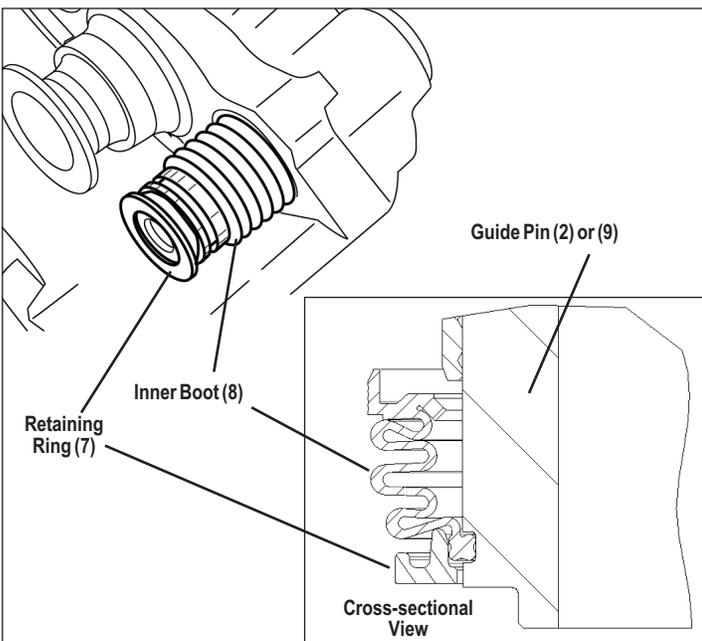

Figure 14 - Guide Pin Installation
Lubricate both guide pins with the white grease supplied. Insert the guide pins into their respective bores with the grooved end towards the bellows. Fit the lip in the end of the inner boots (8) into the groove of the guide pins (See Figure 14). Push on each ring (7) ensuring that the boot (8) is engaged onto the end of the guide pins (2 or 9).